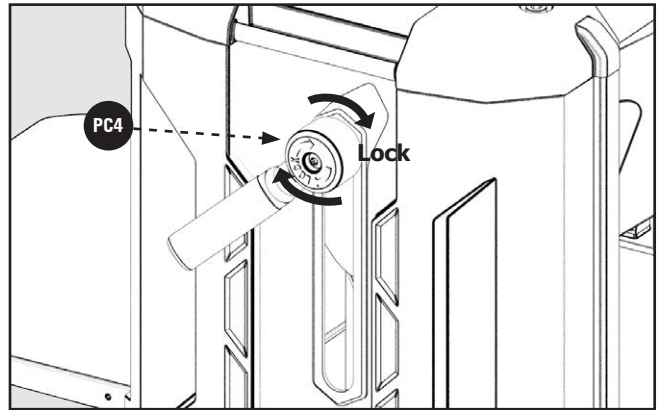
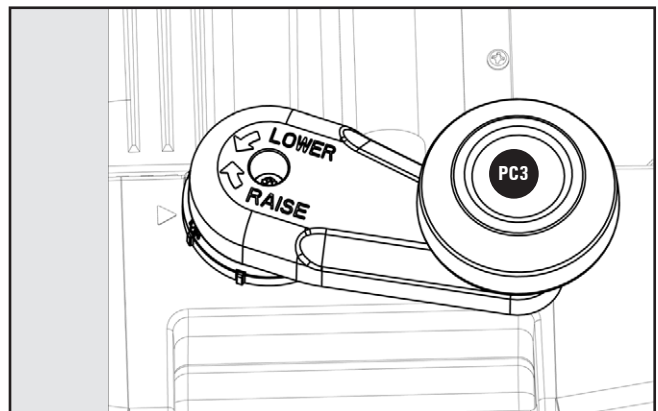

FIGURE 13
FIGURE 14
The cutterhead lock **PC4** Figure 13 helps to eliminate snipe in the board that is being planed. Snipe can also be eliminated by butting boards end to end and feeding them through the planer. Long boards should **ALWAYS** be supported, when feeding them through the planer to help eliminate snipe.
1. To adjust the head assembly, unlock the cutterhead lock handle **PC4** Figure 13. Turn the cutterhead height adjusting handle clockwise to raise or counter-clockwise to lower the cutterhead. One revolution of handle **PC3** Figure 14 will move the cutterhead up or down 1/16 inch (1.6mm).